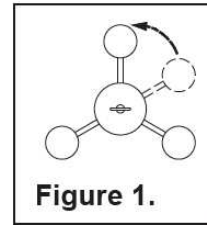
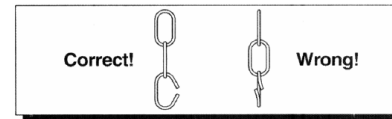

Figure 1.
Figure 2
2. If SUPPORT ARMS on FIXTURE ASSEMBLY are collapsed when shipped, Carefully separate ARMS by gently and evenly spreading them apart. See Figure 1.
4. Locate the CROSSBAR and secure to JUNCTION BOX with (2) JUNCTION BOX SCREWS. Thread LOCK NUT A and VIBRATION PROOF WASHER A on top end of the NIPPLE B. Thread the NIPPLE B into the center of the CROSSBAR. Locate LOCK NUT B and thread onto bottom end of NIPPLE B. Tighten LOCK NUT A against CROSSBAR with pliers until snug.
5. Locate the FIXTURE CHAIN and determine desired hanging height of fixture. Adjust chain by removing links if needed. Please note that depending on chain material thickness, you might be required to use chain pliers to spread links open (See Figure 2). Attach one end of chain to FIXTURE LOOP. Unravel FIXTURE WIRES and GROUND WIRE and pass through FIXTURE CHAIN alternating links at every 3 inches. Proceed to pull the fixture wires through the following mounting components: 1) CANOPY LOCK RING, 2) CEILING CANOPY, 3) CANOPY CHAIN LOOP, 4) VIBRATION PROOF WASHER B.
6. **MAKE ELECTRICAL CONNECTIONS:** (We recommend 2 people for the remainder of installation) Position the FIXTURE under the JUNCTION BOX and pass the FIXTURE WIRES and GROUND WIRES through the center of the NIPPLE B. Using WIRE NUTS, Connect the SUPPLY GROUND WIRE to the FIXTURE GROUND WIRE and secure to the CROSSBAR with GREEN GROUND SCREW, Connect the SUPPLY WHITE WIRE(S) to the FIXTURE WHITE(or RIBBED) LEAD(S); Connect the SUPPLY BLACK (or RED) WIRE to the FIXTURE BLACK (or SMOOTH) LEAD(S). Wrap all connections with approved electrical tape.
10. Restore supply power (ON). Retain this sheet for future reference.